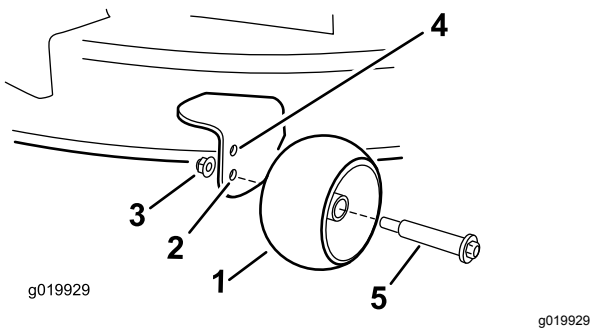

Figure 29
- Upper hole—use this position with the mower deck in the 63 mm (2-1/2 inch) and below the height-of-cut positions (Figure 29).
- Lower hole—use this position with the mower deck in the 76 mm (3 inch) and above the height-of-cut positions (Figure 29).